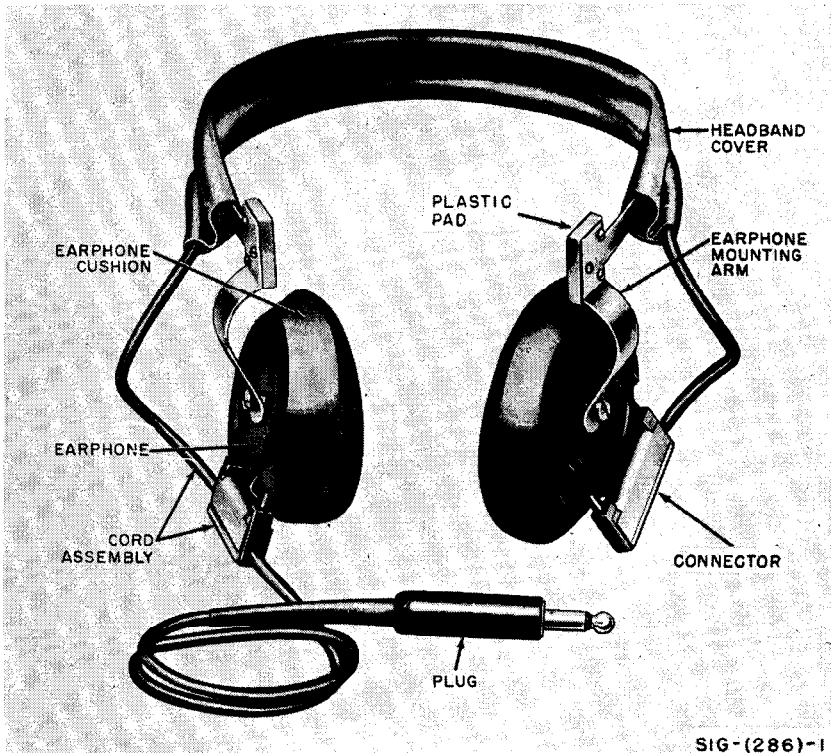

Figure 1. Headset H-113/U.
**4. Description.** Headset H-113/U (fig. 1) consists of two earphones which are mounted on an adjustable headband, and a connecting cord and plug. The earphones are provided with rubber ear cushions. The cord extends approximately 18 inches from the right-hand earphone, and is terminated in a plug. The headset has an impedance of 600 ohms at 1,000 cycles per second.